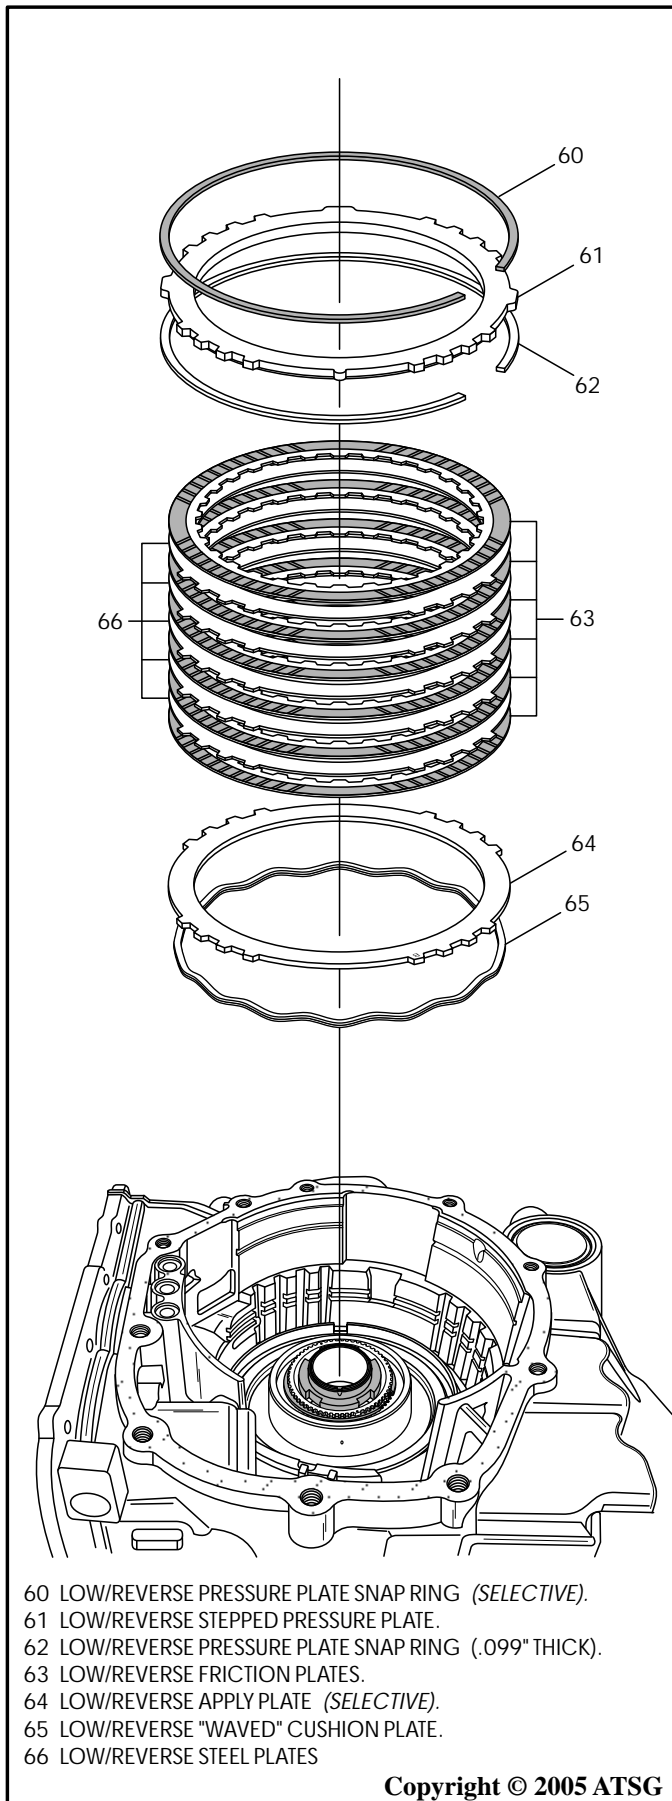

Figure 50
52. Remove the low/reverse clutch pressure plate snap ring, as shown in Figure 50.
53. Remove low/reverse clutch "stepped" pressure plate, as shown in Figure 50.
54. Remove the first low/reverse clutch friction plate, as shown in Figure 50.
55. Remove the second snap ring from the groove in case, as shown in Figure 50.
56. Remove the remaining low/reverse clutch steel and friction plates, as shown in Figure 50.
57. Remove the low/reverse apply plate from case, as shown in Figure 50.
58. Remove the low/reverse clutch "Waved" plate, as shown in Figure 50.